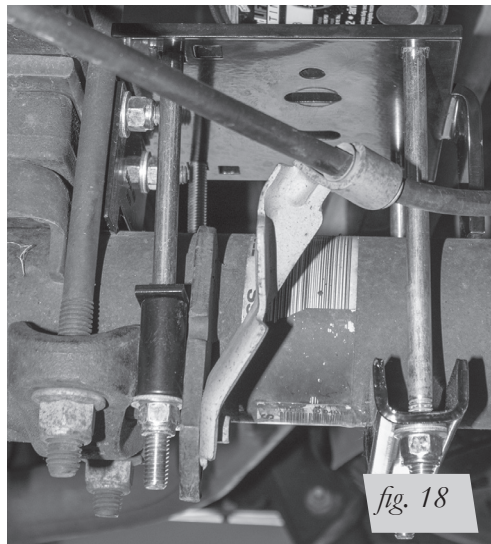

fig. 18
4. Right side (passenger): set the other lower bracket onto the axle making sure the bracket is pushed against the leaf spring and is in between the stock U-bolts. Attach the lower bracket as stated in the figure 12 and 13 instructions noted previously. Torque hardware evenly to 10 lb.-ft. (Figs. 18 & 19).